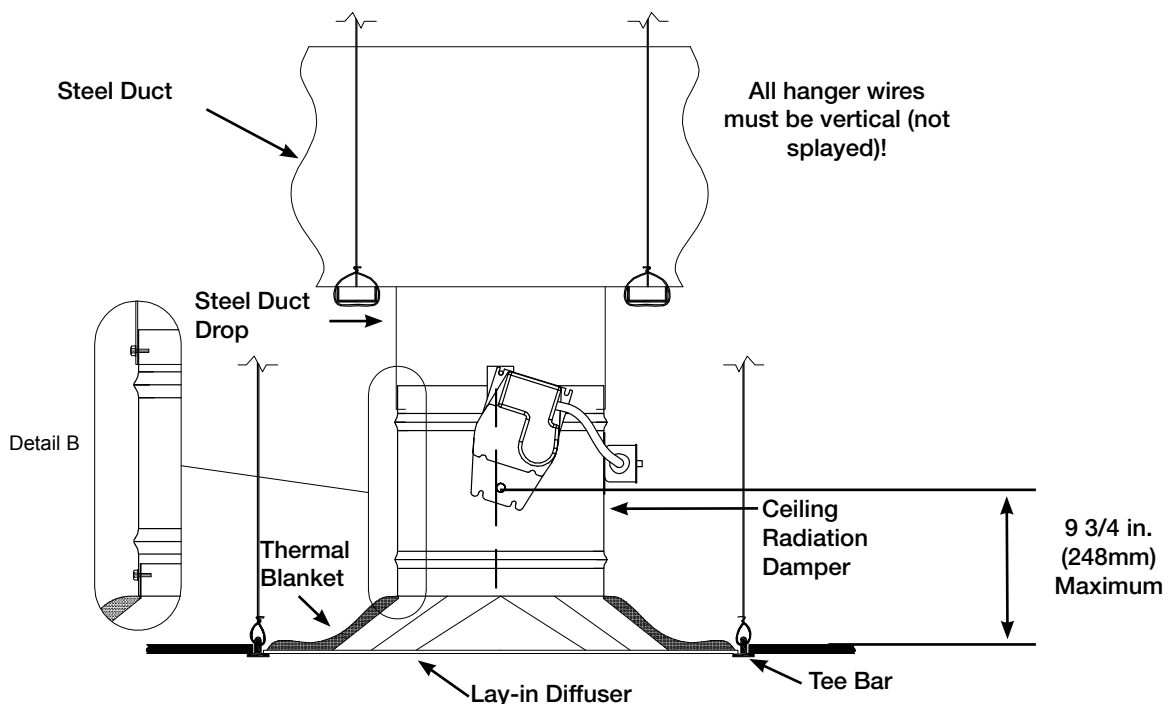

Figure 2
1. Ceiling radiation damper may be connected directly to the diffuser neck and then the duct drop connected to the damper (see Detail B, Figure 2).
Models CRD-501 may be installed as shown in **Figure 2**.